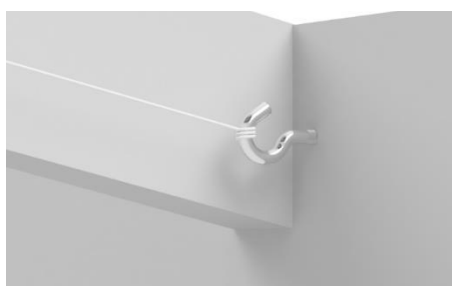

Figure 1
- Fit the screw-in hooks (H) to each corner in the partition. If there are any crossbeams, make sure you place the hooks slightly lower down so that the cord can run freely below these crossbeams.
- Hook the cord tensioner (J) into the upper screw-in hooks.
- Secure one end of the cord (B) to the front hook with a double knot. See Figure 1.